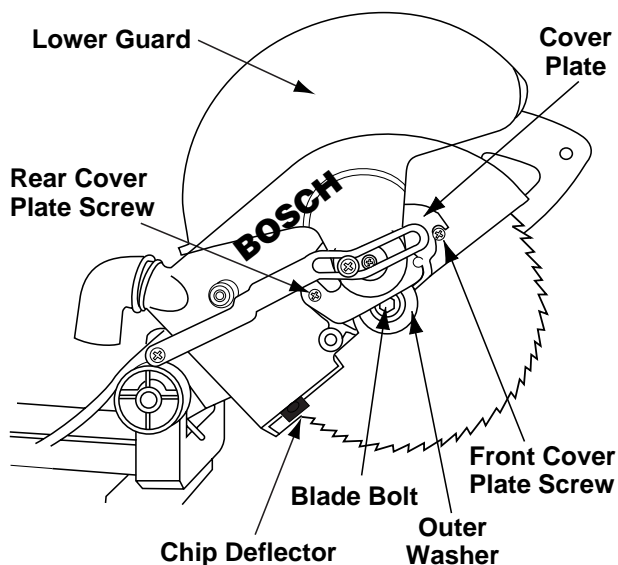

Figure 1. Blade Removal
2. Loosen the rear cover plate screw using a Phillips screwdriver (Figure 1).
3. Rotate the lower guard by hand. Remove the front cover plate screw using a Phillips screwdriver (Figure 1).
4. Rotate the cover plate counterclockwise so the blade bolt is exposed (Figure 1).